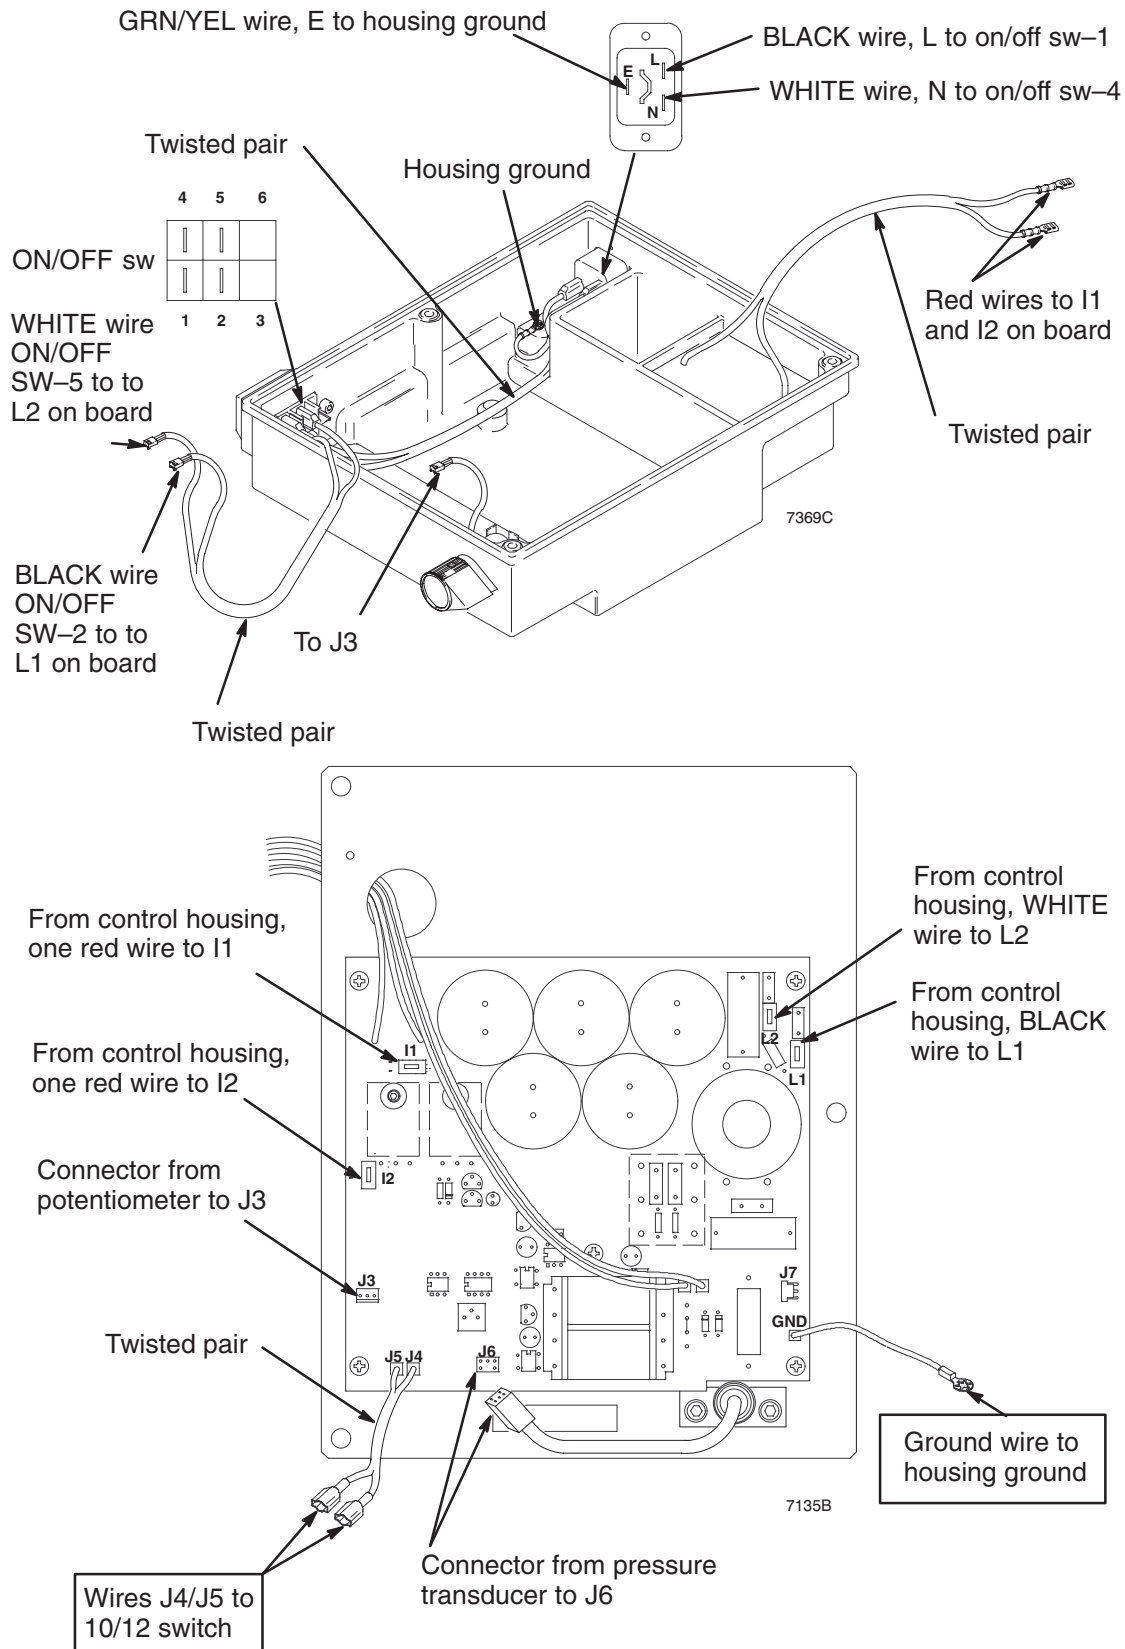

Fig 16
4. Remove and replace only those components and wires necessary for repair. Make a diagram showing wire hook-ups for items removed to insure correct wiring when reinstalling. See Fig 16 for wiring information.
5. Install control housing (202) to motor control board (201) using screws (213) and lockwashers (214).